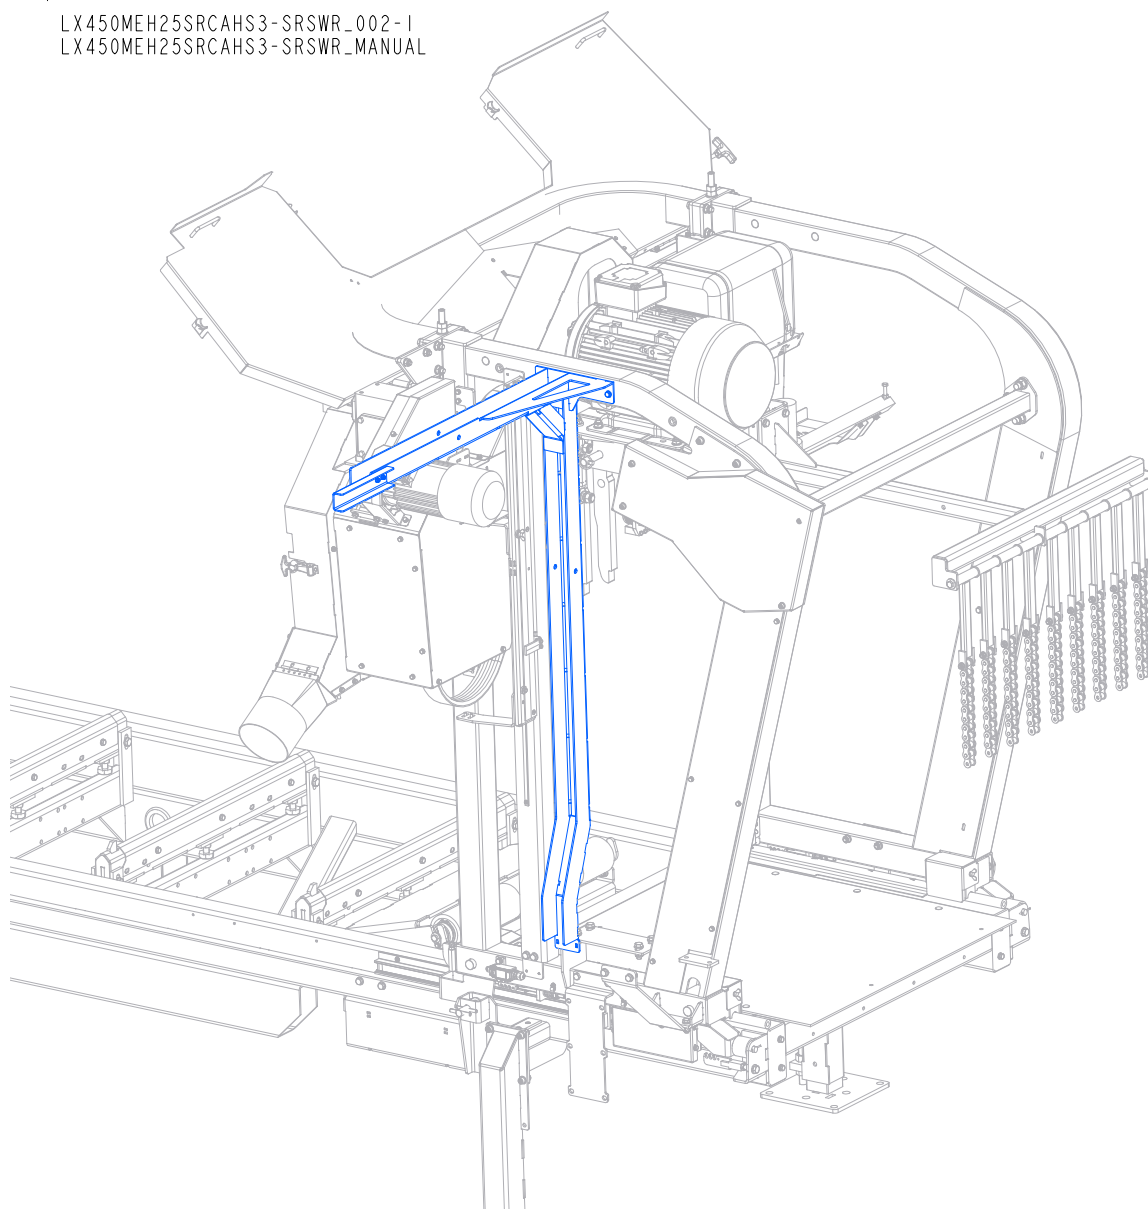

FIG. 2-8
**See Figure 2-8.** Tension the blade by turning the tensioner handle clockwise until the tension gauge indicates the recommended tension. Check the blade tension occasionally when adjusting the cant control or while cutting. As the blade and belts heat up and stretch, the blade tension will